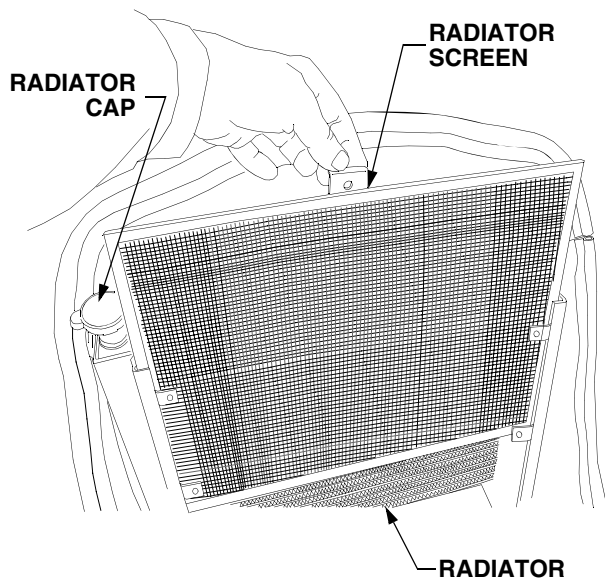

Figure 49
To remove the radiator screen, lift the hood and carefully lift screen by the center tab. Flush the screen with water to clean its surface. See Figure 49.
If the overflow reservoir is empty, the radiator cap should be removed and the coolant level in the radiator checked before adding coolant to the reservoir. If necessary, first refill the system through the radiator filler neck as follows (Refer to Figure 49):
- Turn the radiator cap counterclockwise to the first stop, then push downward on the cap and turn counterclockwise to remove. Refer to Figure 49.